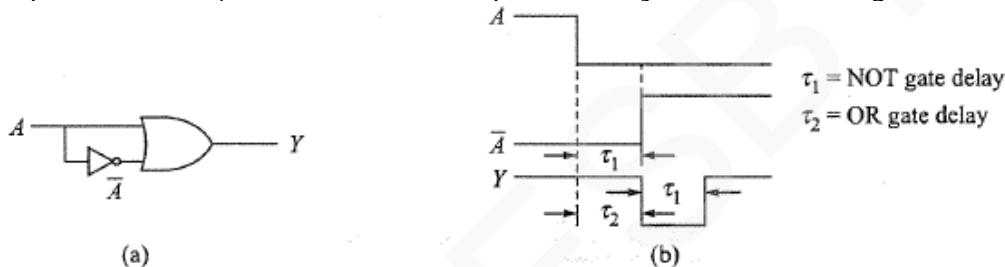

Figure 3.34: Static-1 hazard
- In a combinational circuit, if output goes momentarily 0 when it should remain a 1, the hazard is known as **static-1 hazard** (Figure: 3.34).